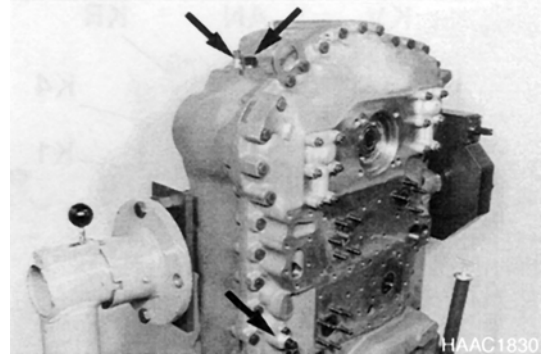

Figure 113
4. Remove speed sensor and both inductive transmitters (Figure 113).